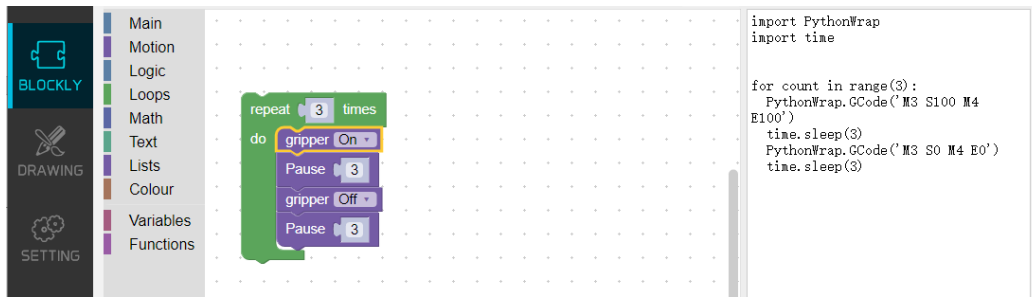

Figure 3.33 Controlling the gripper in the BLOCKLY function
- In the BLOCKLY page, control the gripper by drag and edit the **Gripper module** which can be found in the **Motion** panel. Figure 3.33